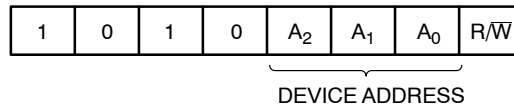

Figure 3. Slave Address Bits
The Master initiates data transfer by creating a START condition on the bus. The Master then broadcasts an 8-bit serial Slave address. The first 4 bits of the Slave address are set to 1010, for normal Read/Write operations (Figure 3). The next 3 bits, A₂, A₁ and A₀, select one of 8 possible Slave devices. The last bit, R/ \overline{W} , specifies whether a Read (1) or Write (0) operation is to be performed.